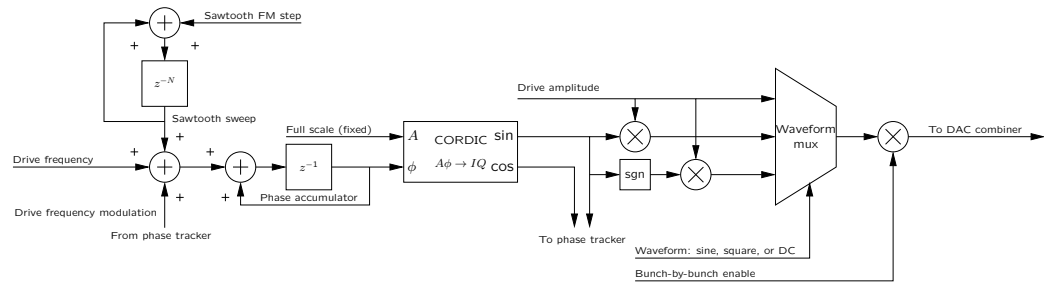

Figure 15: Drive source block diagram
Three independent drive sources are available in iGp12-80F FPGA, 0, 1, and 2. Each source is based on an numerically controlled oscillator (NCO) with sawtooth frequency modulation (FM) capability and bunch-by-bunch enable. Three output waveform types are supported: sinusoidal, square, and direct current (DC). Block diagram of a drive source is shown in Figure 15.